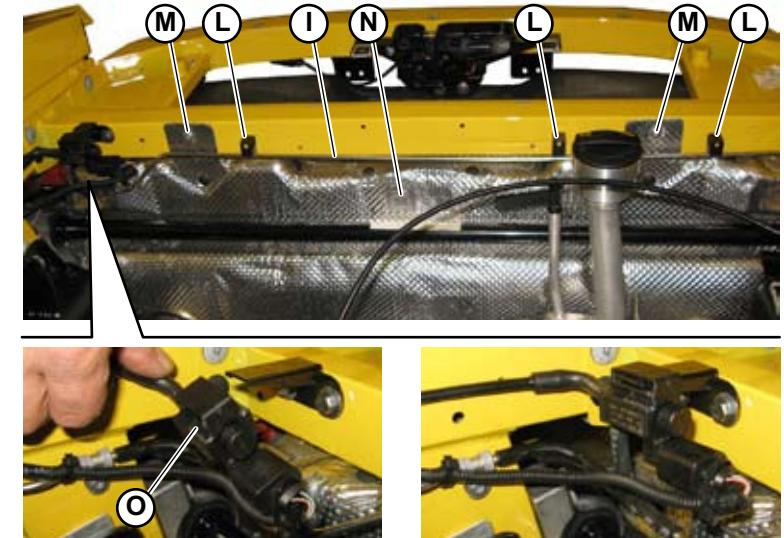

Fig.9
8. Position the ECS pipe (**I-Fig.9**), securing it to the 3 clips (**L-Fig.9**) on the cross member.
9. Tighten the 2 screws (**M-Fig.9**) and secure the heat-proof panel (**N-Fig.9**) to the cross member.
10. Connect the sensor (**O-Fig.9**) to its bracket on the cross member.